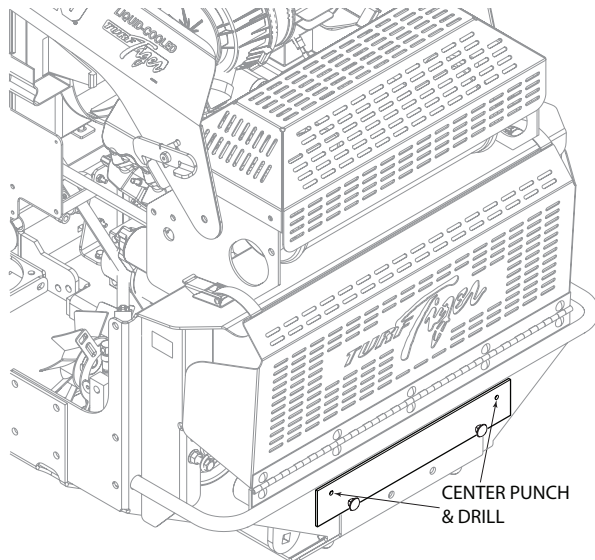

Figure 2-12. STT Hopper Mounting Holes
9. Center punch and drill two pilot holes using a 1/4" drill bit. Remove the template and finish drill using a 13/32" (0.406) drill bit. See Figure 2-12.